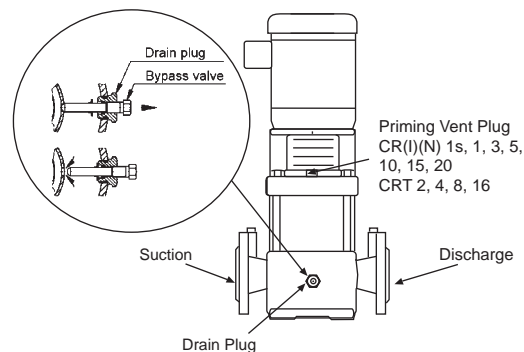
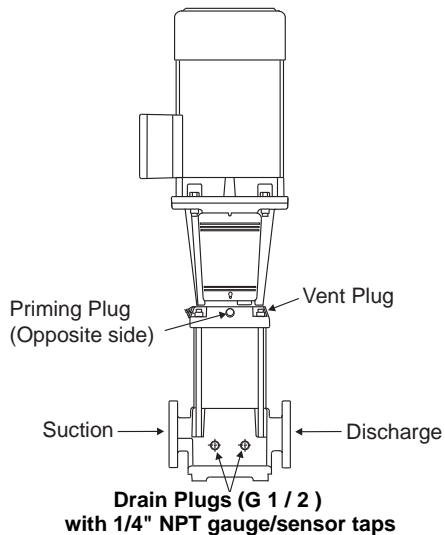

Fig. 13 Plug and valve locations
Fig. 14 Plug/valve locations CR(N) 32, 45, 64, 90, 120, 150
To prime the pump in a closed system or an open system where the water source is above the pump, close the pump isolation valve(s) and open the priming plug on the pump head; see fig. 13 and fig. 14.
8. Switch on the power and again check for proper motor rotation. Once rotation has been verified, switch off power again. Do not attempt to reinstall the coupling guards with the motor energized. Replace the coupling guard if the rotation is correct. After guards are in place the power can be reapplied. **Note:** CR, CRI, CRN 1s to 5: For these pumps, it is advisable to open the bypass valve during start-up; see fig. 13. The bypass valve connects the suction and discharge sides of the pump, thus making the filling procedure easier. When the operation is stable, the bypass valve must be closed.